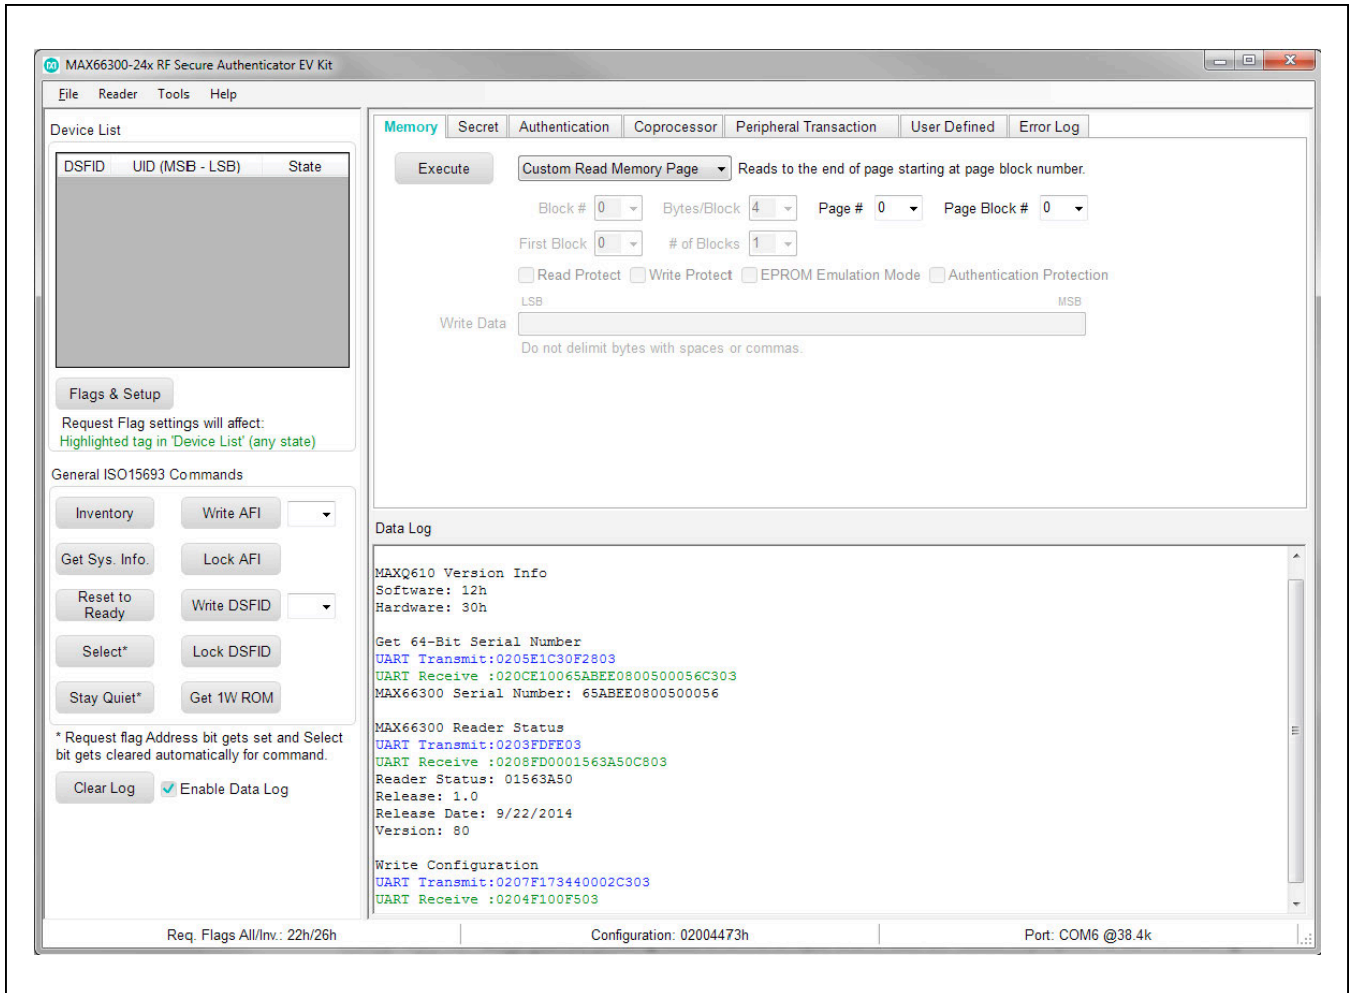

Figure 4. MAX66300-24x EV Kit GUI
- 8) The evaluation program GUI appears as shown in Figure 4.
Quick Start section with the GUI open as in Figure 4, click on rectangular red objects and confirm red circular objects for the following steps: